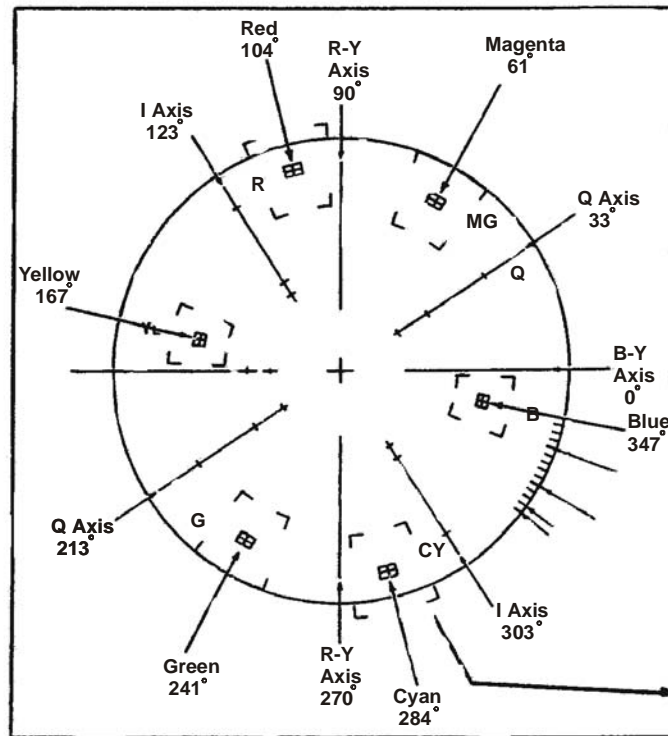
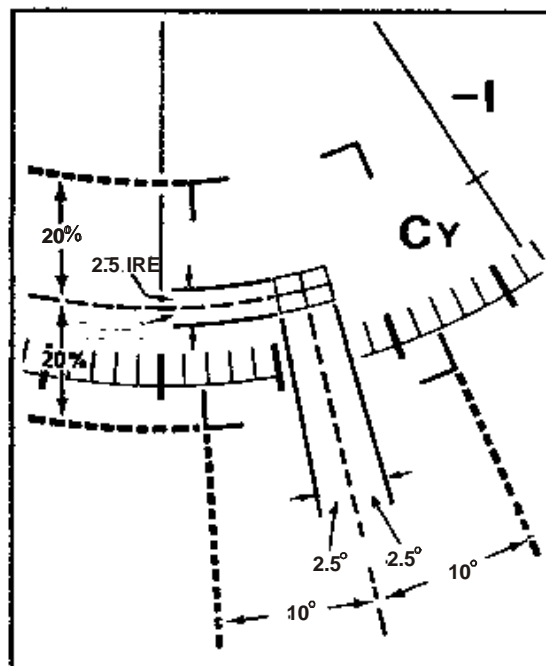

Figure H-14. Vectorscope Graticule
Figure H-15. Enlarged Section of the Cy Portion of Graticules
k. The vectorscope is another special test oscilloscope developed for close inspection of amplitudes and phases of the color subcarriers in a video signal. The vectorscope is best applied when setting up a video program to be played back or recorded. You will use the vectorscope to properly align the phase and amplitude of the color bars signal. Phase and amplitude adjustments are normally accomplished through a time-base corrector. Figure H-14 illustrates the graticule scale of a typical vectorscope, and Figure H-15 provides a close-up of the graticules' circumference in degrees.